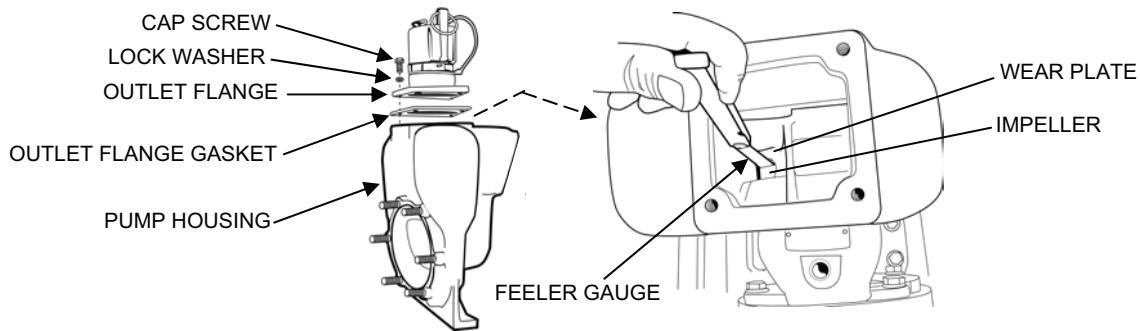

Figure 6. Impeller Clearance Adjustment.
5. Set the gap between the impeller and the pump wear plate as follows (see Figure 6):